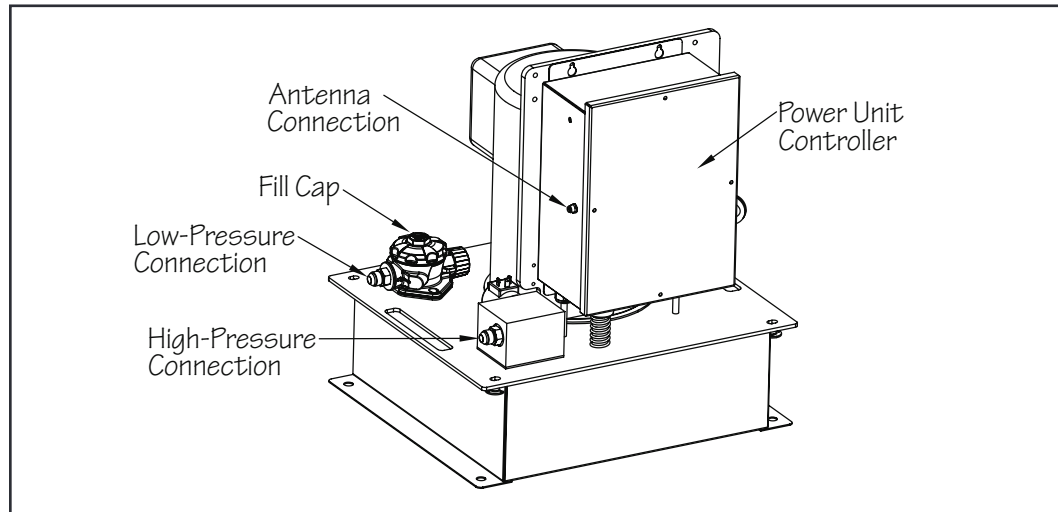

Fig. 12.1
- 12.1 Turn the circuit breaker for the Power Unit off. The next step is connecting the hydraulic hoses. If the hoses attached to the Fastlane Pro are to be directly connected to the Power Unit, then adapters must be attached to the ends of the hoses. These adapters are provided in the hardware kit. If additional run hoses are being used, they will connect directly to the Power Unit without the use of adapters. The low-pressure hose (attached to the Fastlane Pro) will have red tape wrapped around the hydraulic fitting and will connect to the port on the fill cap. The high-pressure hose will connect to the port on the high-pressure manifold (Fig. 12.1).
- 12.2 Remove the antenna and transmitters from the inside of the Power Unit Controller. Thread the antenna onto the antenna connection on the left side on the controller (Fig. 12.1).